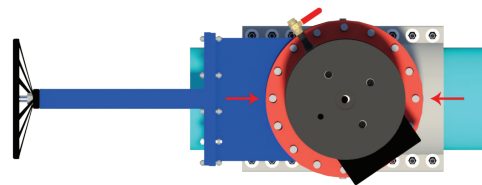

Figure 67 — Alignment nut placement for insertion housing alignment
**5.1.2)** Thread 2 alignment nuts onto the studs which connect the insertion housing to the temporary gate valve. Place these nuts at the locations shown in Figure 67. Install alignment nuts so that the tapered part of the nut enters the flange hole.